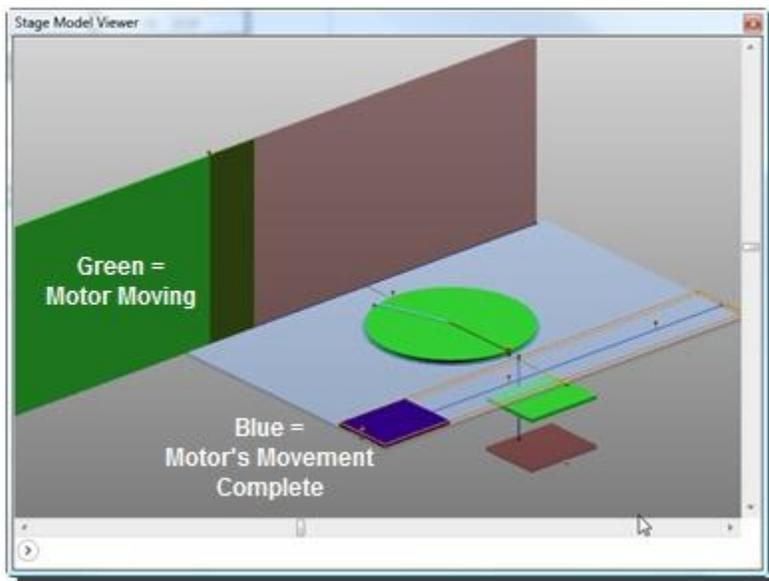

Figure 330
- The motor(s) that are moving in the Cue change to green inside the **Stage Model Viewer** (Figure 330).